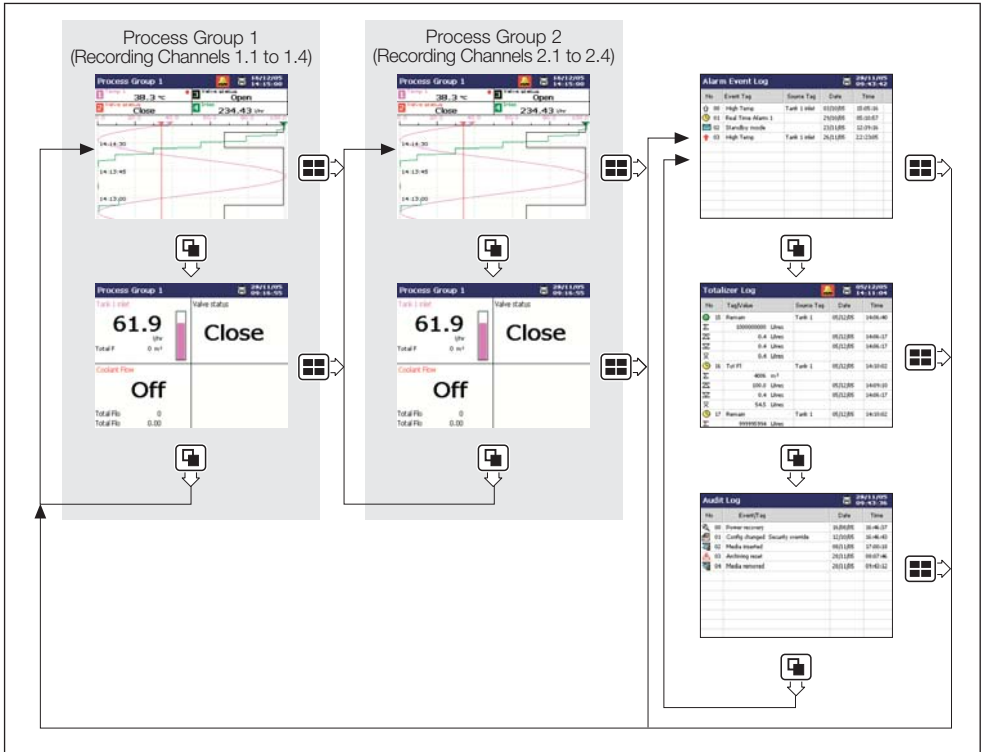

Fig. 4.2 Overview of Operator Displays
- ① Menu Key – Displays or hides the context-sensitive operator menu associated with each view. Also cancels the menu without making a change or returns to the previous menu level.
- ② Group Key – Selects a different process group or
- ③ Up/Down Keys – Highlights menu items and scrolls through previously recorded data.
- ④ View Key – Selects a different process view or log or
- ⑤ Enter Key – Selects the highlighted menu item. If 'Screen Capture' is set to 'Enabled' during configuration and external archive media is inserted in the instrument, the operator can save a snapshot of any operator view to the external media if pressed when an operator menu is not displayed.
- ⑥ Door Release.
- ⑦ Door Lock (optional).
4.3 Operator Display Overview – Fig. 4.2